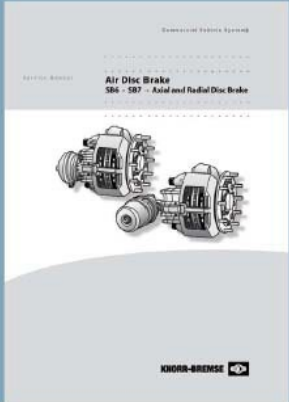

Figure 12 - Rebushing Instructions
1.13. Follow the re-bushing instructions (see Annex A and Figure 12).